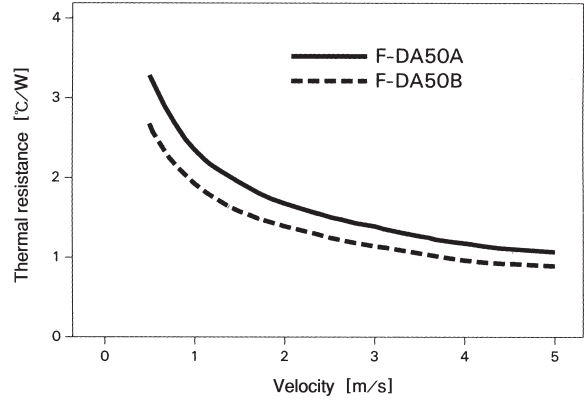

Fig.13.1 Thermal resistance of heat sink for 50W(Forced air)
(2)Fig.13.1, 13.2, 13.3 and 13.4 show the thermal resistance when the forced air cooling is used.